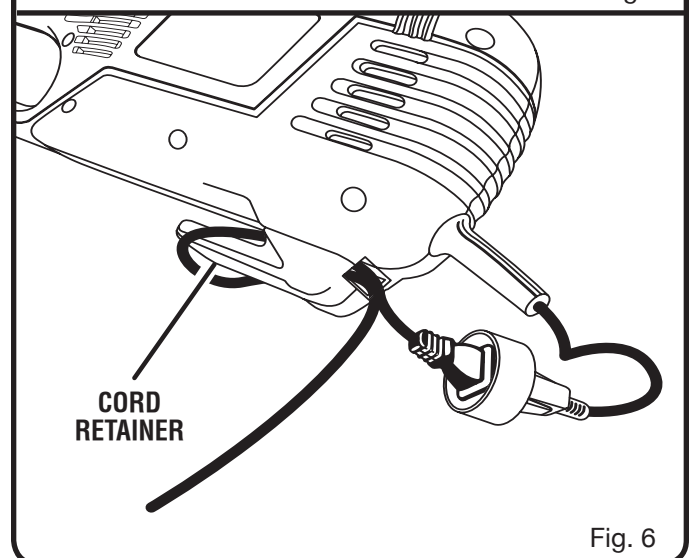

Fig. 6
- Pull loop of extension cord around tongue and pull tight. See Figure 6.
- Attach extension cord to plug on trimmer. See Figure 6.